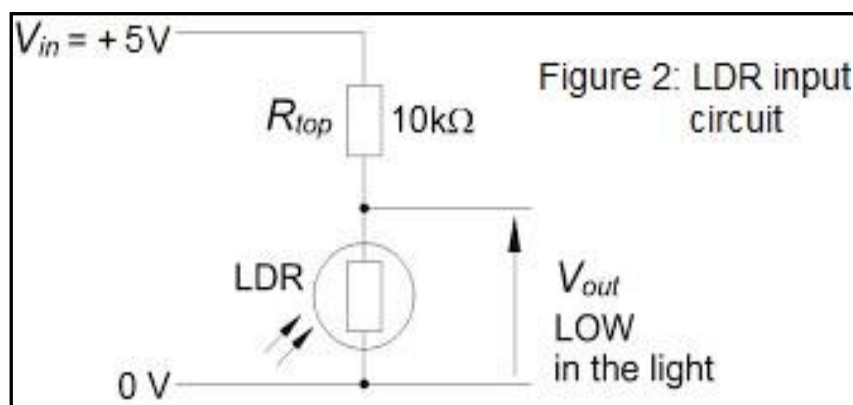

Figure 2: LDR input circuit
2. Replace the variable resistor with a resistive-based sensor in a potential divider circuit as shown in Figure 2.